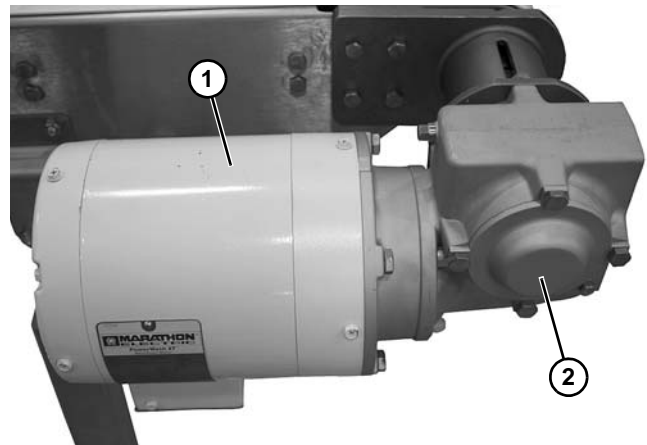

Figure 28
1. Attach the motor (**Figure 28, item 1**) to the gear reducer (**Figure 28, item 2**).